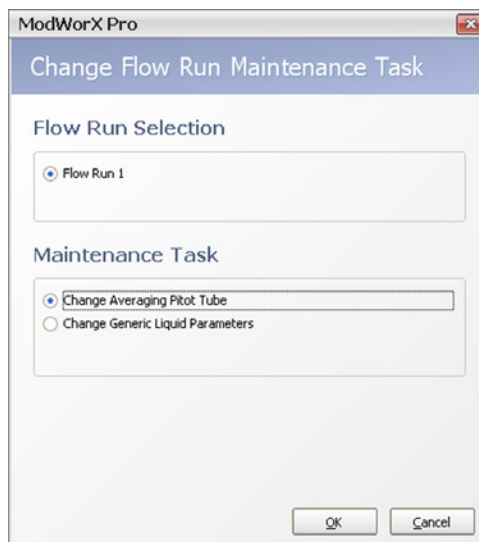

Figure 11.13
1. If Change Generic Liquid Parameters is not displayed in the Maintenance Task field at the top of the Maintain Flow Run screen, click on **Change Task**. The Change Flow Run Maintenance Task dialog will appear (Figure 11.13, page 165).